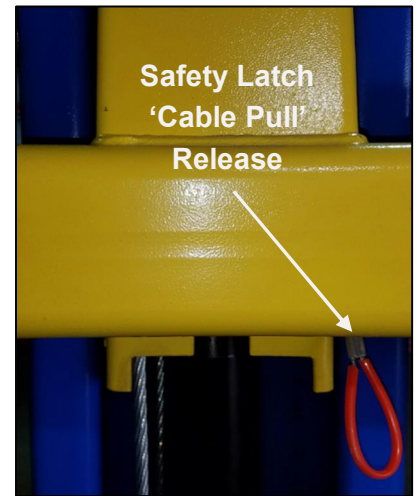

Fig. 20
2. To lower the lift, both carriage safety latch releases must be manually pulled down to be released to lower lift (**Fig.20**). The latches will automatically reset once the lift ascends approximately 17+from base.